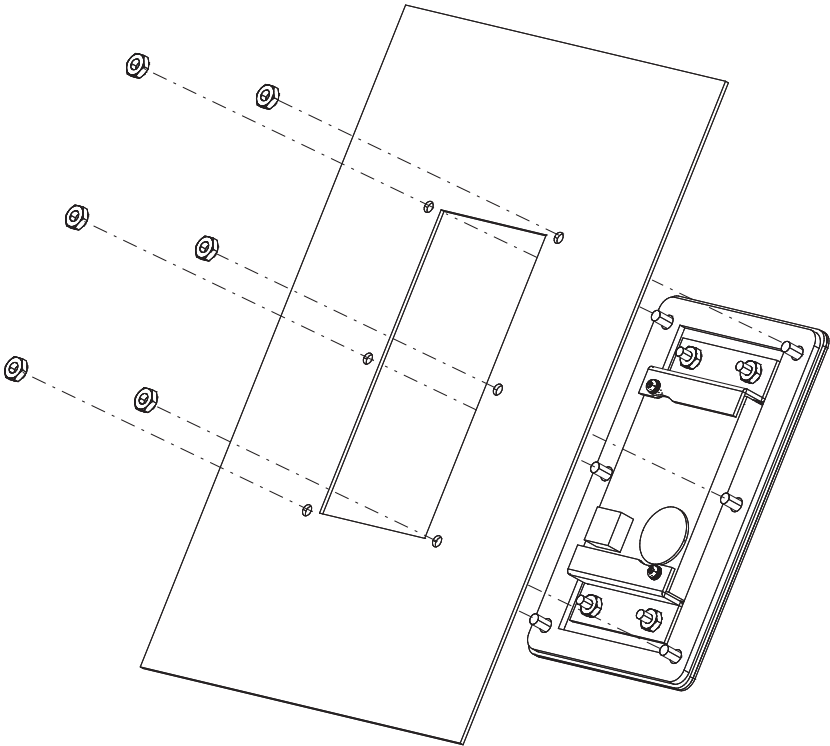

Figure 4 Mounting Bracket Assembly
6. Complete installation by attaching the completed assembly to the end-use enclosure according to **Figure 4**. Use the provided #10-32 nuts and tighten to 30 lb-in. (3.39 Nm). Tighten the screws in a cross-like pattern to prevent damage to the threads and to assure proper sealing.